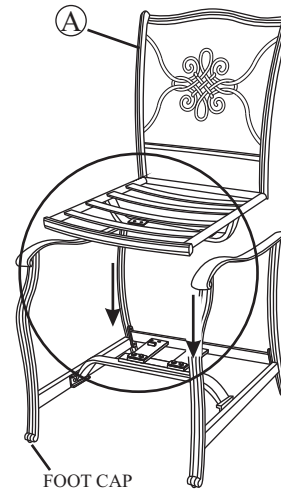

Fig. 3
Step 5: Set the chair frame on the rocker assembly with front of the seat facing you and the arrows on the "U" bar pointing towards you as shown in Fig.3. This is very important for a safe, balanced rocking motion. **If chair frame has been properly positioned on the rocker assembly, all arrows on the "U" bar and rocker assembly will be pointing in the same direction.**